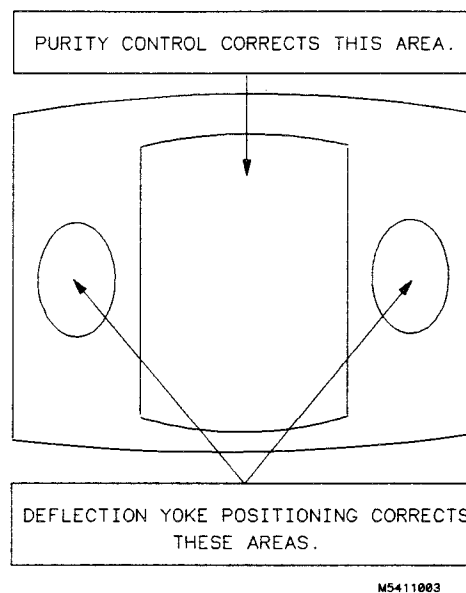

Figure 4-6. Landing and Purity Adjustment Guide
10. If landing is not correct in step 9, repeat steps 6 through 9 for best compromise. Refer to figure 4-6.